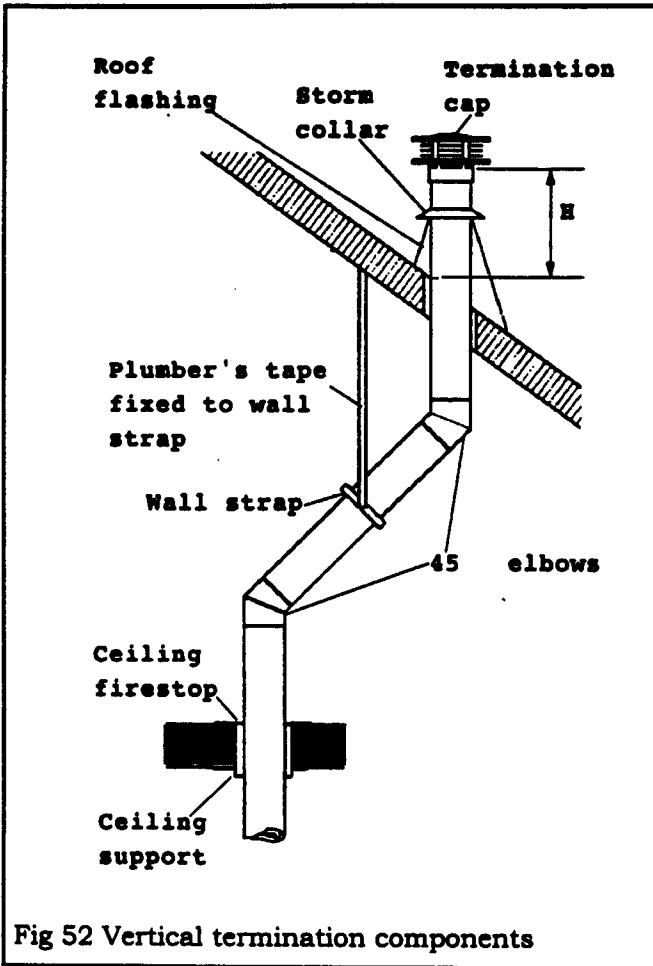

Fig 52 Vertical termination components
10.2 The distance from the roof to the lowest terminal discharge opening ("H" in fig. 52) depends on the roof pitch and must be in accordance with the current CAN/CGA - 149.1 in Canada or ANSI Z223.1 in the USA.
If rafters or other obstructions will prevent a vertical exit or if clear attic space is desired, the roof outlet can be offset using 45° elbows - see fig. 52.
If installation includes offset, support the offsetting pipes every 3 feet (1m) with wall straps (fig. 52).